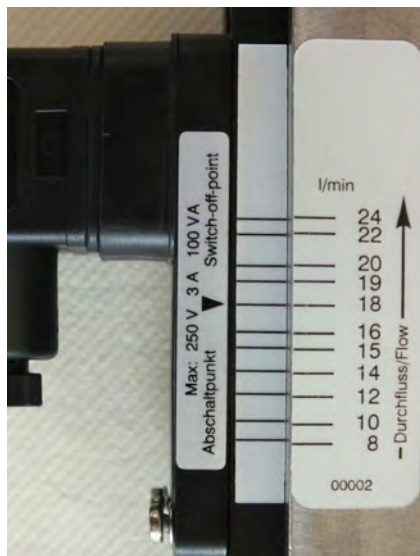

Fig. 34: Reading-off the switch point (example)
1. ➤ Make sure that the setting arrow, the scale mark on the additional label on the guide rail and the scale mark of the switch point adjustment scale are in alignment. (Fig. 34)